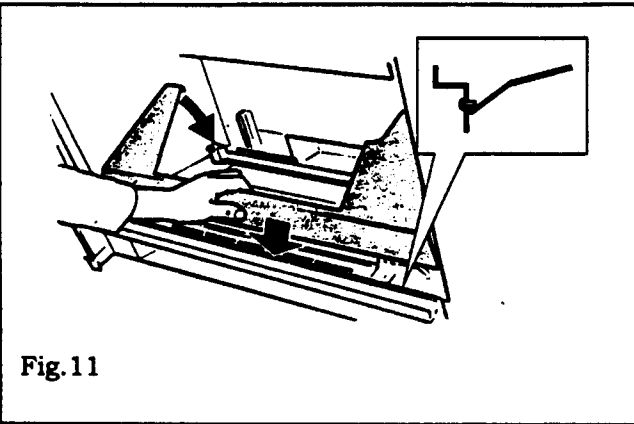

Fig.11
6.8 Place the firebox base cover in position (Fig. 11) – ensure that the front lip is located under the rivets